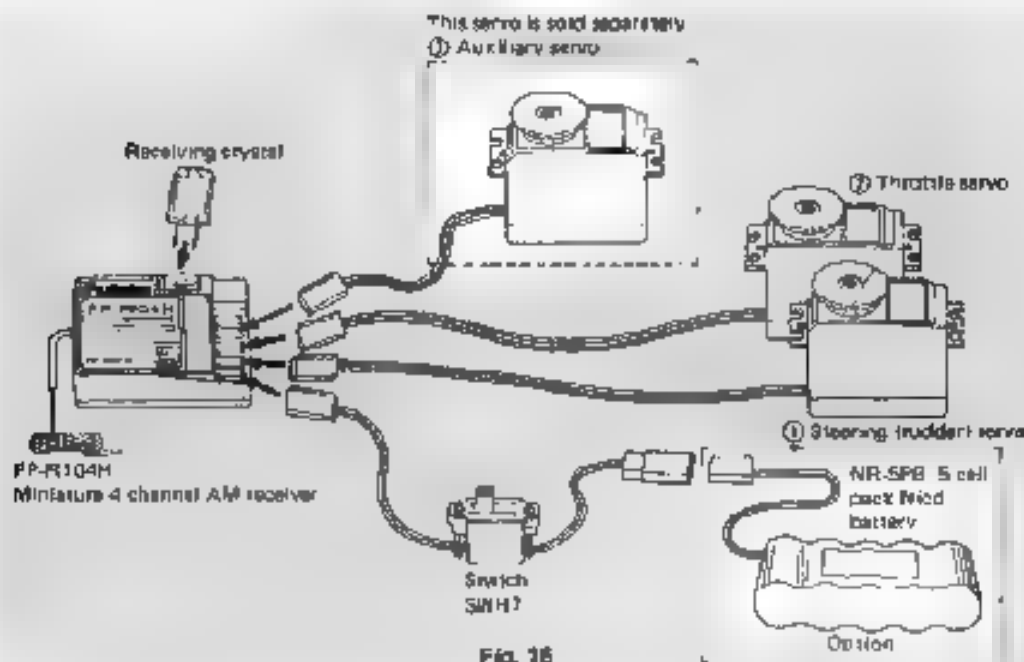

Fig. 16
- Connect the servos and switches firmly as shown in Fig. 16. Then extend the transmitter and receiver antennas fully.